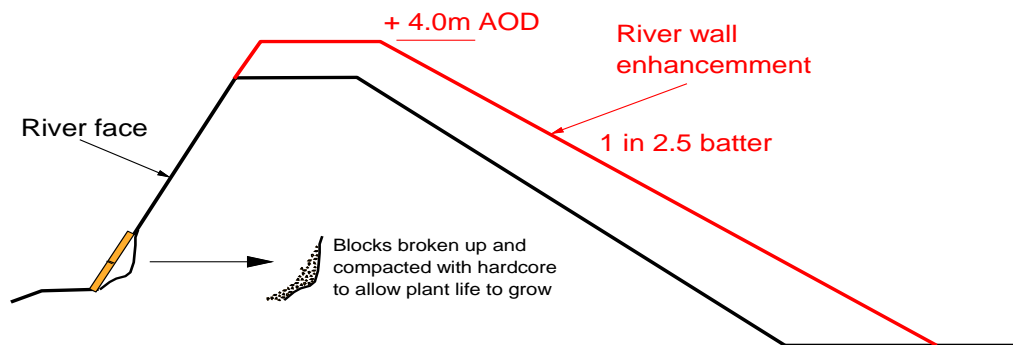

Figure 2: Work on River Wall near Sutton Hoo – 2008
Work on River Wall near Sutton Hoo – 2008 (described in No 49 edition of *The Deben*) The owners of three houses close to the river below Sutton Hoo agreed in the early 2000s that they should repair the river wall protecting their land. In 2008 EA gave limited consent to carry out work on this section of the river wall (see Figure 2). This was carried out to the owners’ specification for a length of wall of about 1Km, following discussions with a number of experts (including Andrew Hawes and people in the Essex Coast Organisation):
- At some of the places in the past, owing to lack of saltmarsh, Essex blocks had been placed at the base of the wall on the riverside. Erosion had taken place behind the blocks. In these places the blocks had been broken up and mixed with hardcore to form a wave resistant armour (see Detail to Figure 2). This has allowed spartina grass to grow quickly and create a grass barrier.